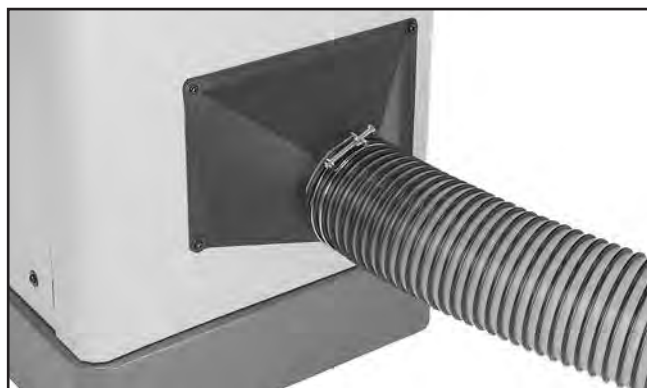

Figure 32. Dust hose attached to dust port.
1. Fit a 4" dust hose that is connected to a dust collector over the dust port, as shown in **Figure 32**, and secure in place with a hose clamp.